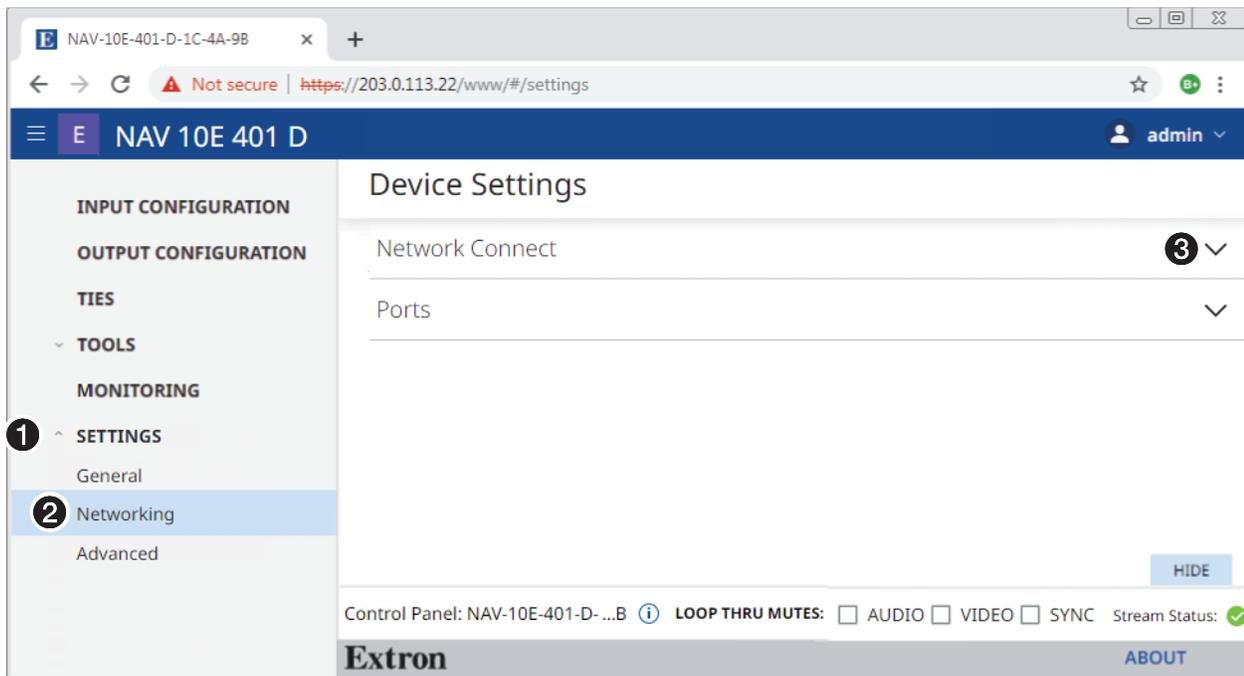

Figure 7. Home Page
6. Complete the **Username** [1] and **Password** [2] fields and click **Sign In** [3]. The browser opens to the home page of the embedded web pages (see figure 7).
1. On the home page, click **Settings** (see figure 7, ❶ on page 6) > **Networking** (❷) > **Network Connect** (❸). The Network Connection pane opens (see figure 8), showing protected views of the network connection settings.